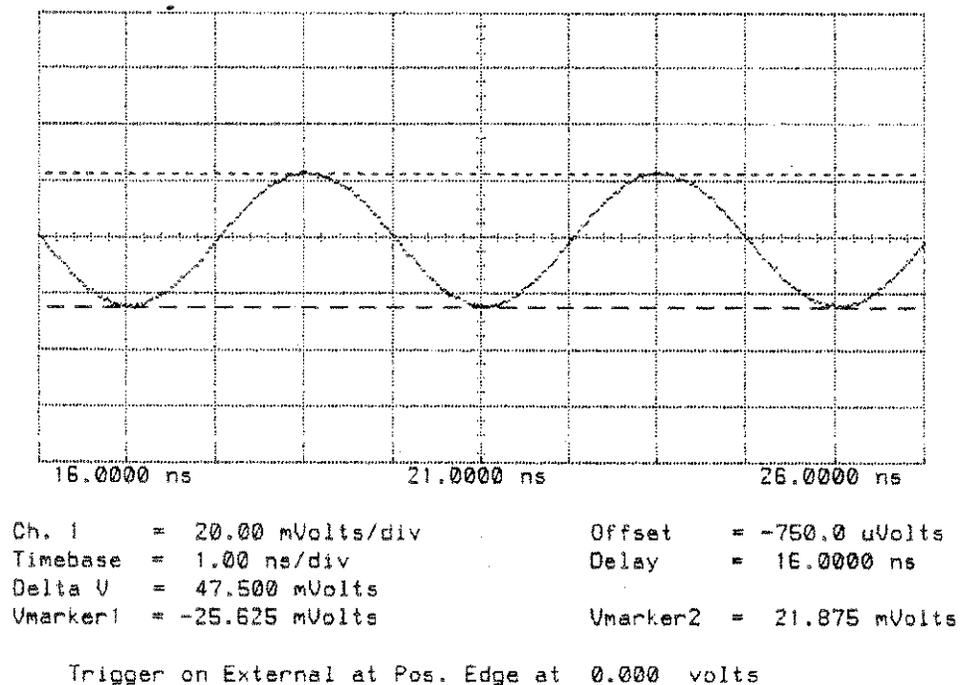

Figure 4-5. High Bandwidth Adjustment with Markers
14. Adjust HB1 (R161) until signal amplitude overlays the 30% and 70% markers. Refer to figure 4-5. Adjustment HB1 is High Bandwidth adjustment for channel 1 only.